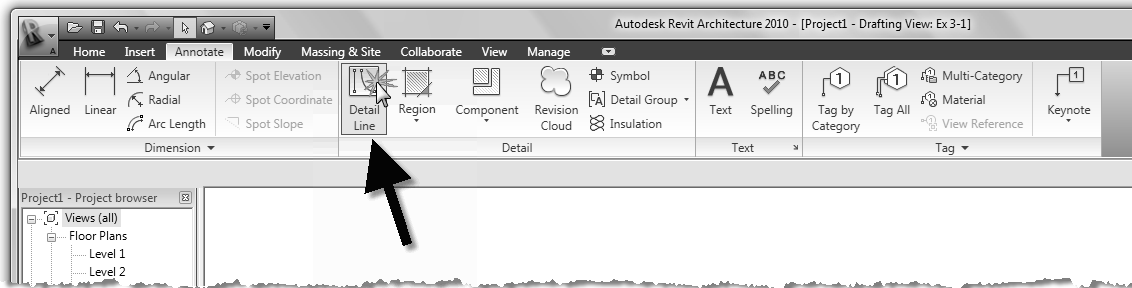

Figure 3-1.5 Annotate tab
9. On the *Detail* panel, select **Detail Line** (Figure 3-1.5).